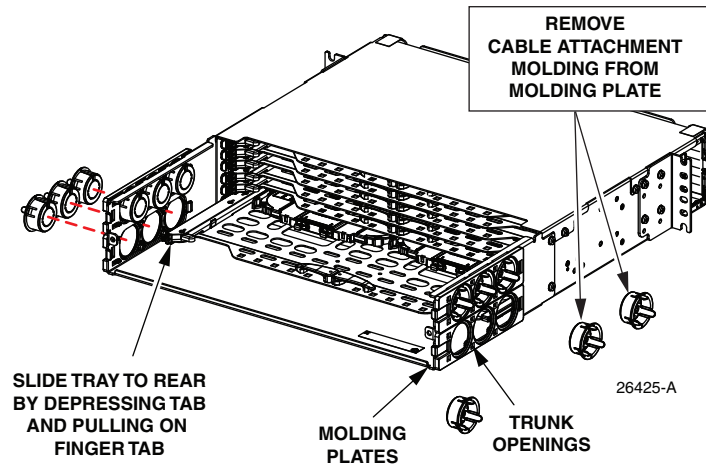

Figure 18. Removing the Cable Attachment Molding
2. Remove the cable attachment molding from the hole positions where trunks will be installed, as shown in Figure 18.
3. Depress the tab on the lowest blade, as shown in Figure 18, and pull the blade backward using the finger pull so that the blade will be accessible for connecting the trunk connectors to the adapter pack or module already installed on the blade.